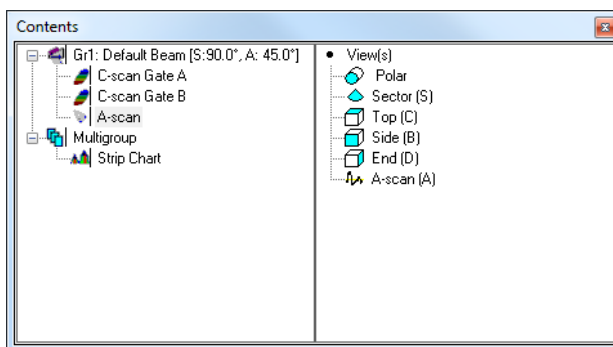

Figure 4-37 Example of the Contents dialog box
2. In the menu, click **View > Contents**, or click  on the **View** toolbar to open the **Contents** floating dialog box (see Figure 4-37 on page 263).